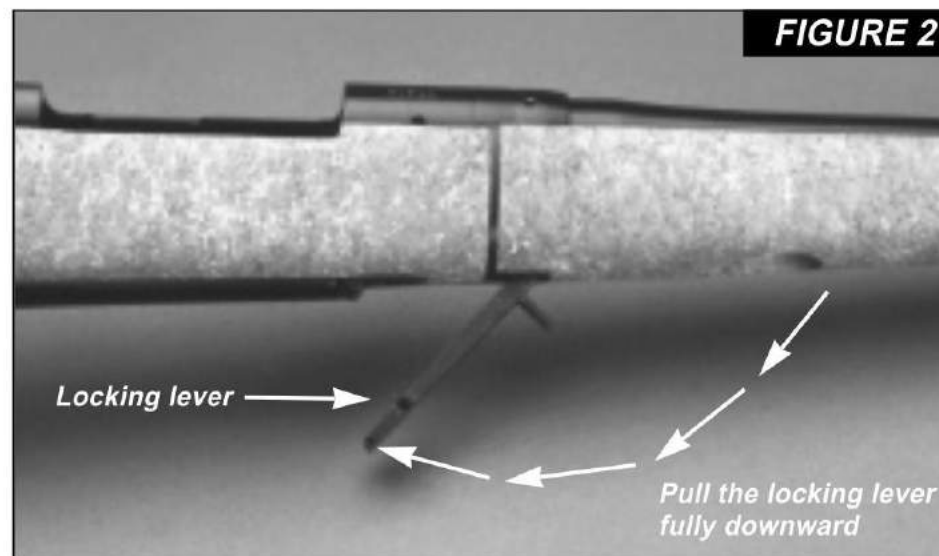

FIGURE 2
2. Pull the locking lever downward fully (see Figure 2). This retracts the locking pin from a matching recess in the action.
2. Pull the locking lever on the forearm fully downward (refer back to Figure 2). This retracts the locking pin out of the matching recess on the receiver plate.